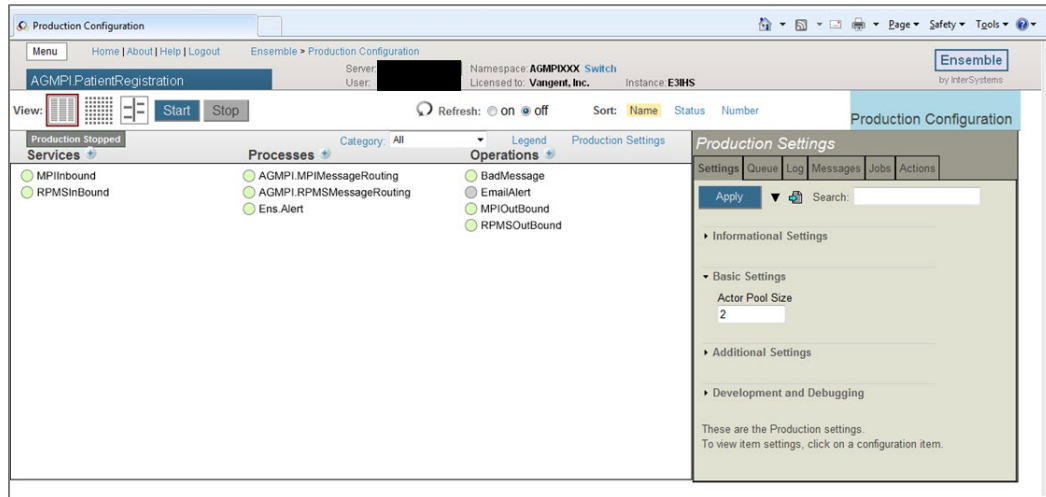

Figure 5-6: AGMPI.PatientRegistration production instance
3. The **Production Configuration** page for the selected namespace is displayed, as shown in Figure 5-6.
6. Once a production has been opened, and on subsequent visits to the page, the page displays the configuration for that production, as shown in Figure 5-6.